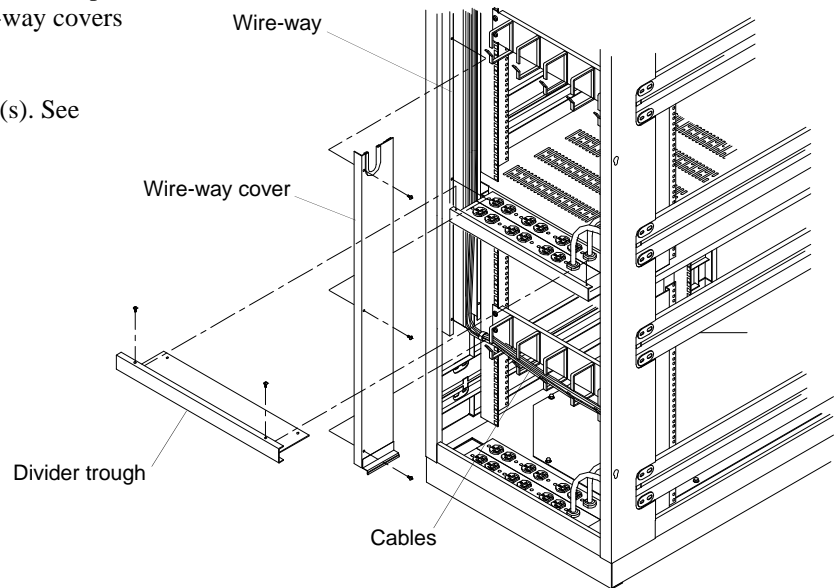

Figure 24
1. To route the cables, first remove the wire-way covers and divider troughs in the top bay(s). Route the cables thru the wire-way and then thru the bushing at the top of the enclosure and then re-install the wire-way covers and divider troughs. See figures 24 and 25.